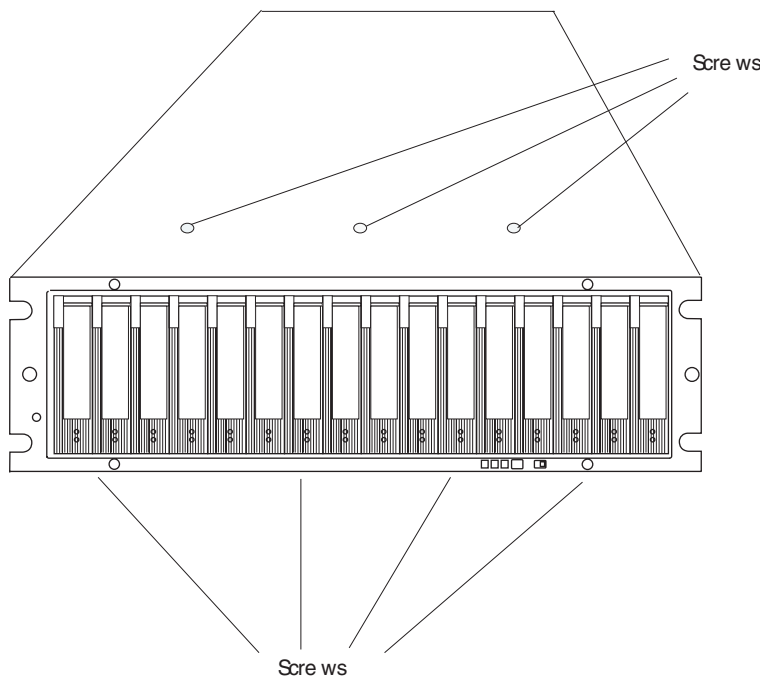

Figure 89. Screws holding the top and bottom sides of the chassis to the cage frame
Pull the chassis outward from the front of the rack and remove from the rack. Place it on a level surface. Look for a row of three Phillips screws on top of the chassis and a row of four Phillips screws on the bottom of the chassis, as shown in Figure 89. Remove the seven Phillips screws using the #1 Phillips screwdriver. Save these screws.
17. Install the seven Phillips screws (three on top and four on bottom) that hold the front cage frame to the EXP810 chassis that you removed in step 12 on page 153, as shown in Figure 89 on page 154.